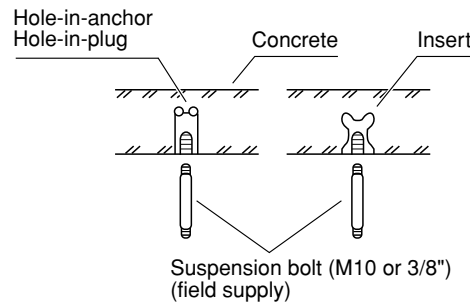

Fig. 3-3
- (3) Depending on the ceiling type:
- Insert suspension bolts as shown in Fig. 3-3. or